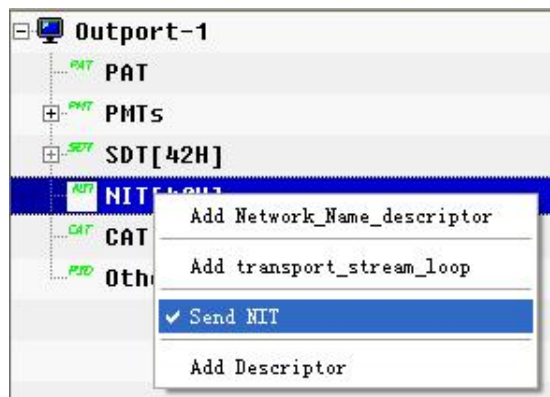

figure 3-34
8、 right click‘NIT’,such as figure3-34,select ‘√Send NIT’, it show NIT table will be send by M208.otherwise select ‘Send NIT’ .